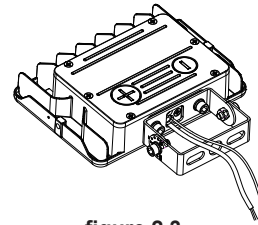

figure 2.3
Step 4: Tighten the other bracket with screws (figure 2.3)